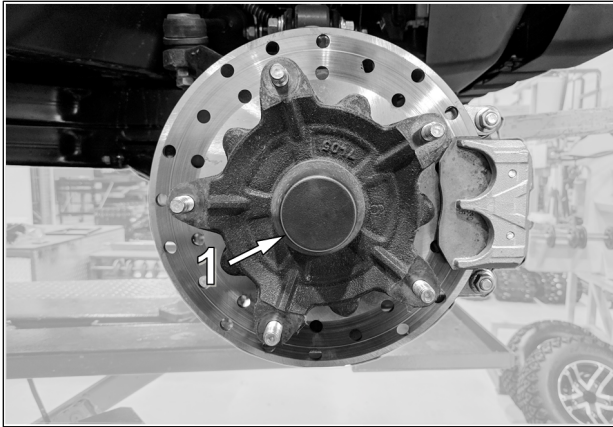

Fig. 17
**CAUTION:** Take rubber protector (1) off hub. Fig. 17